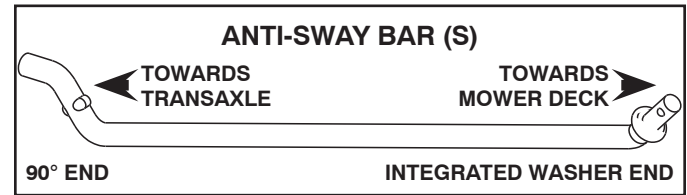

Fig. 26
## 5. INSTALL ANTI-SWAY BAR (S) (IF EQUIPPED) (See Fig. 26 - 28)